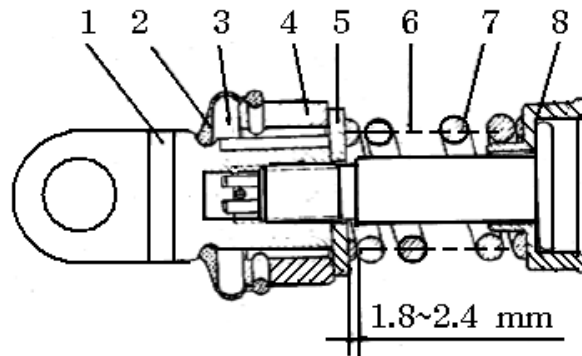

Fig. 5-11 Adjustment of draft control spring assembly
(1) For the adjustment of spring assembly of draft control system, see Fig. 5-11.